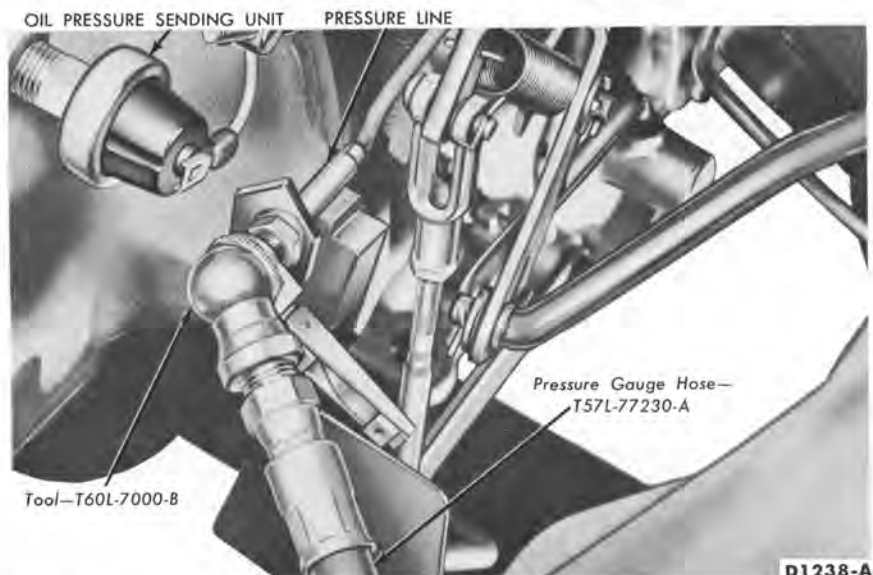

FIG. 3—Pressure Test—PBZ and PCF Models
3. Remove the cap from the pressure line and install the tool shown in Fig. 3. Position the gauge so that it can be read from the driver's seat.